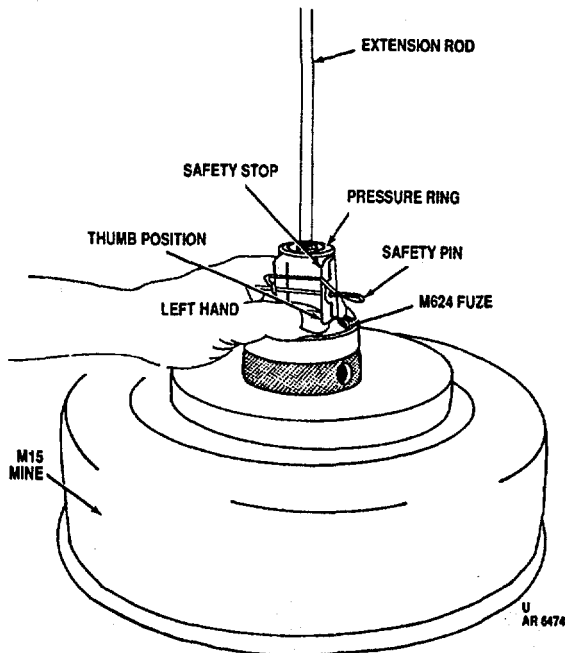
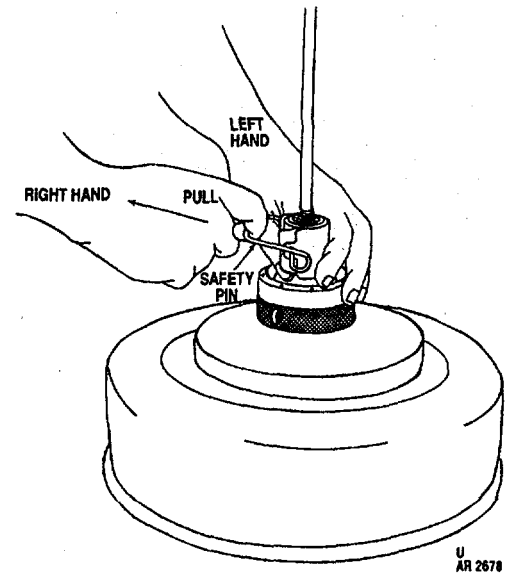

Figure 2-41. Left hand grasping fuze (arming fuze).
Figure 2-42. Pull with right hand (arming fuze).
- (19) To arm fuze, lie in prone position, raise safety pin to horizontal position, and grasp safety bank and safety stop with left hand (fig. 2-41) (note position of thumb). With right hand index finger, pull safety pin out while sliding it to the right (figs. 2-42 and 2-43). Carefully remove safety stop while holding safety band in place. If any cracks are noted in plastic collar, while still in prone position, slowly and carefully reassemble stop and safety pin on fuze so that pressure ring is immobilized. Remove extension rod carefully. Remove fuze from mine, using extension rod if necessary. Turn fuze in to ASP for disposal and replace it with a new fuze. If no cracks are noted, carefully remove the safety band (fig. 2-44). THE FUZE IS NOW ARMED!